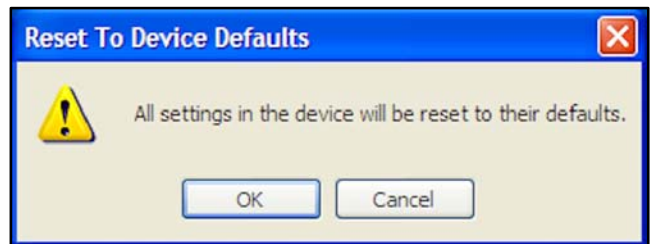

Figure 12-8 Reset To Device Defaults Dialogue Box
2. The Reset to Device Defaults dialogue box opens. Click on the OK button to reset the device. Click on the Cancel button to exit the dialogue box without resetting the device. See Figure 12-8.